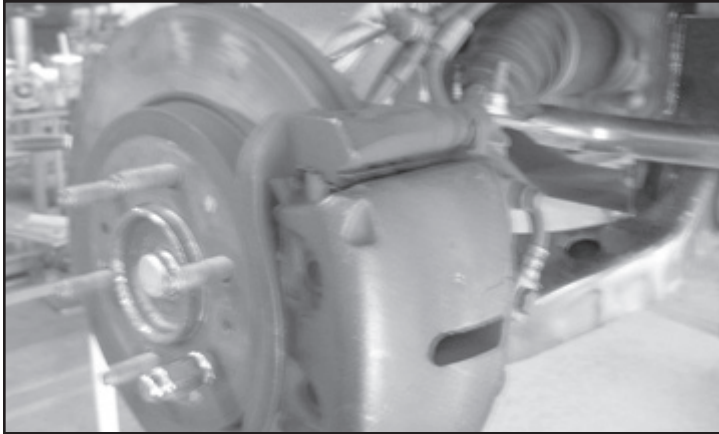

FIGURE 53 - STEP 52
52. Reinstall the original brake rotor, followed by the brake caliper. Use a small amount of the supplied thread lock compound on the caliper bolts and torque to 145 ft-lbs. **SEE FIGURE 53**